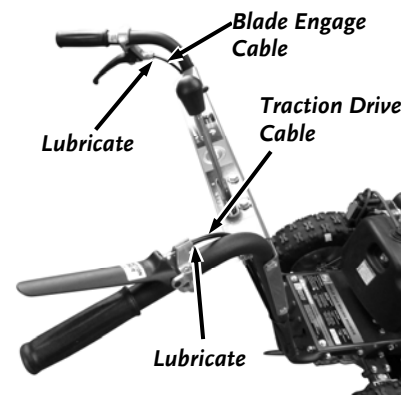

Figure 18
1. Lubricate the Traction Drive and Blade Engagement Cables with SAE 30 Oil (**Figure 18**). Apply the lubricant into the cable housing while working the cable back and forth a few times. You should do this at both ends of the cables. Perform this lubrication more often in dry and dusty environments.